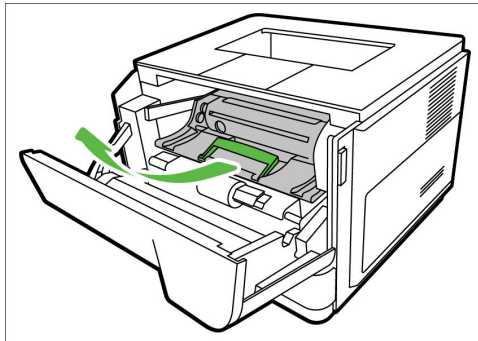

Figure 6-44. Removing imaging unit from the Lexmark printer
- c. Pull the green handle on the imaging unit out toward you to remove it from the printer. Remove any manufacturing tape (Figure 6-44).